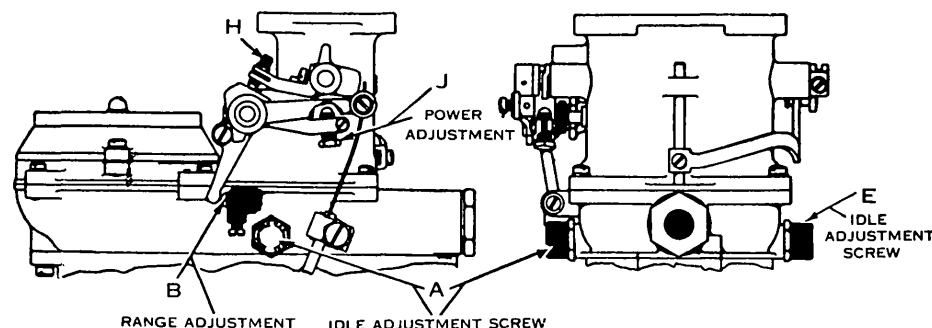

Fig. 10
**Idle Adjustment.**—The duplex carburetor has two idle adjustments (A, Fig. 10) and (E). Before making any carburetor adjustments warm up the motor to average driving temperature. Both adjustments (A) and (E) turn in the same direction for rich and lean. Turning these adjustments to the right (clockwise) makes the mixture leaner and to the left (counter-clockwise) makes the mixture richer.
The adjustment is made by turning the range adjusting screw (B, Fig. 10) to the left for a lean mixture and to the right for a rich mixture in the driving range.
**Power Adjustment.**—The carburetor will give the best mixture for speed and maximum power on the hills when the bottom of the head of power screw (J, Fig. 10) is setting so that it measures  $7/32$  inch to the arm that holds screw (J). On the later Duplex carburetors there is a small pin located at the side of screw (J) and the original factory setting is to have the bottom of the head on screw (J) flush with the bottom of the pin. In high altitudes more power can be obtained by leaning up on the power mixture—turning screw (J) to the left (counter-clockwise) 3 to 5 complete turns. Turning screw (J) to the right richens the power mixture.